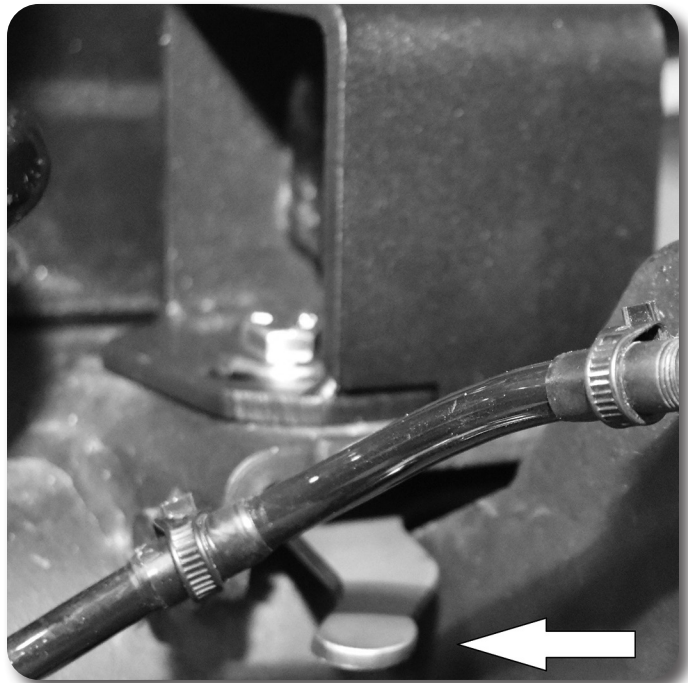

Figure 17
28. Attach bump stop extensions to driver's and passenger's side with 5/16" x 7/8" bolts with prevailing torque nuts and washers. For the driver's side, slide the nut tab provided in the kit behind the OE track bar bracket hardware, under the bump stop plate. Figure 17 Both bump stop extensions are positioned towards the driver's side of the vehicle with the two holes in the bottom plate facing the passenger side. Tighten to 18 ft-lbs.